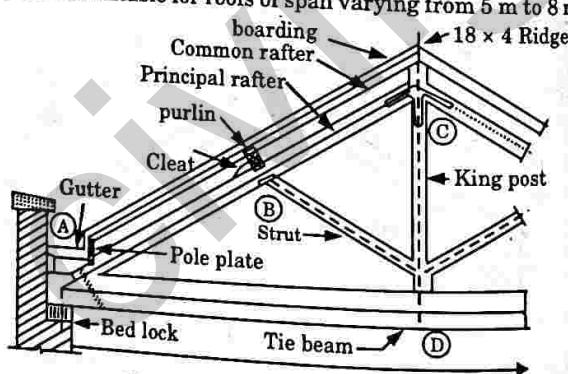

Fig. 4.11.3. Details at joint A
- Magnitude of bending stresses is negligibly small and hence not considered in design. King post truss is shown in Fig. 4.11.3